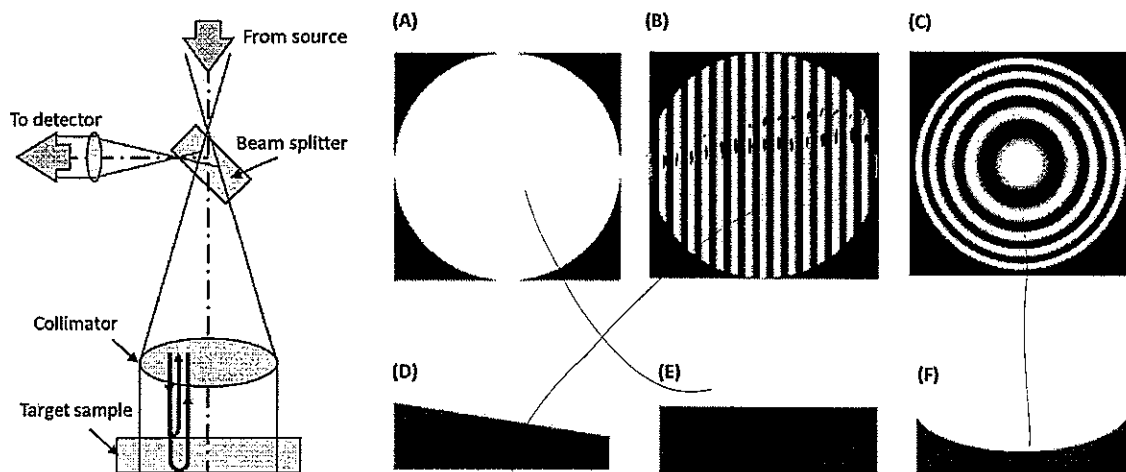

Figure 2: Fizeau interferometer: optical configuration and interferograms
4. Fizeau optical interferometer shown in Figure 2 is used for high-precision thickness measurement.
- (a) For the interferograms shown in Figures 2(A), 2(B), and 2(C), match the corresponding thickness profile of the target sample from 2(D), 2(E), and 2(F), and explain the reasons for your answers.
- (b) If you have acquired an interferogram shown in Figure 2(B) from the Fizeau interferometer using a 800 nm wavelength laser, what is the thickness variation of the sample? Can we tell which end is thicker from the interferogram? (hint: Fizeau interferometer is based on double-path optical configuration).